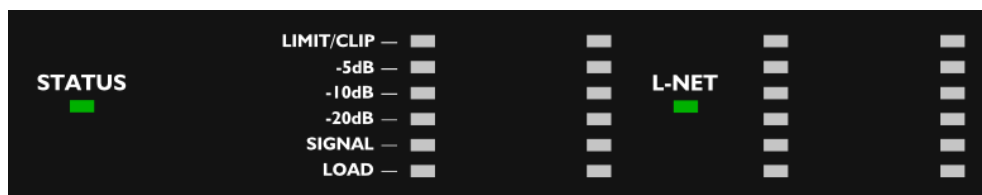

Figure I5: STATUS and L-NET LED
- green (see Figure I5) when the LA4X operates normally.
The **L-NET** LED is lit in green (see Figure I5) when the LA4X is remote controlled from software such as LA NETWORK MANAGER (refer to the **LA NETWORK MANAGER video tutorial**).